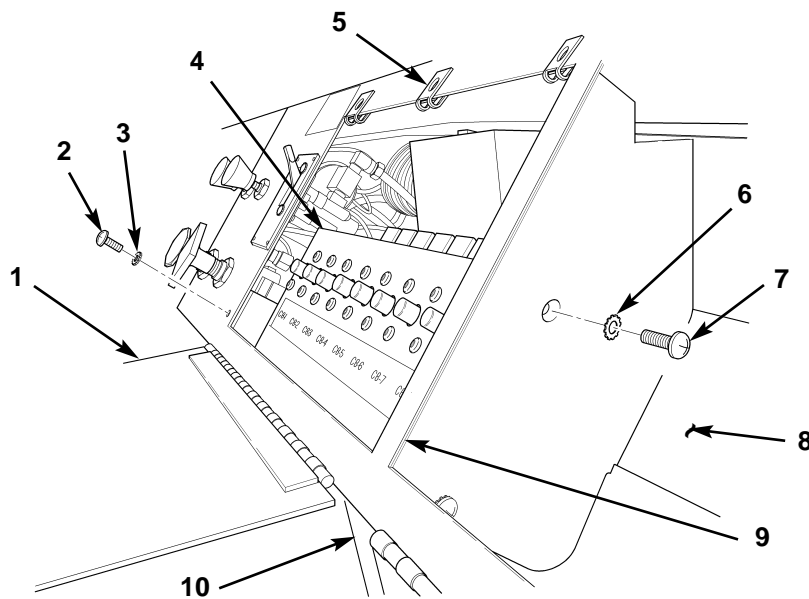

Figure 82. Securing Center Control Panel.
28. Position circuit breaker panel (figure 82, item 4) in place on dash panel (figure 82, item 9) and install star washer (figure 82, item 3) and screw (figure 82, item 2) on dash panel (figure 82, item 9) and circuit breaker panel (figure 82, item 4).
29. From glove compartment (figure 82, item 8), install two star washers (figure 82, item 6) and screws (figure 82, item 7) on dash panel (figure 82, item 9) and circuit breaker panel (figure 82, item 4). Close and secure glove compartment door (figure 82, item 10).
30. Close circuit breaker cover (figure 82, item 1) and turn three turnlock fasteners (figure 82, item 5) 90 degrees.